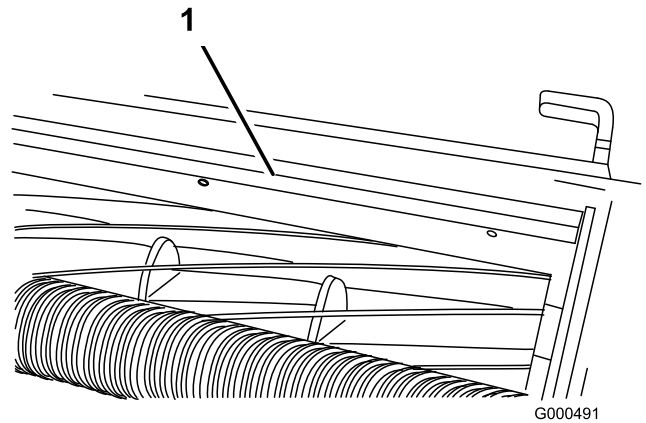

Figure 58
1. Loosen screws securing top bar (Figure 58) to cutting unit.